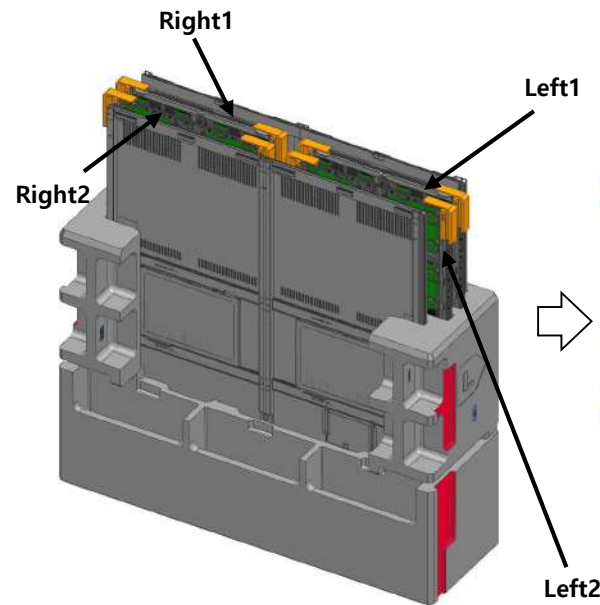
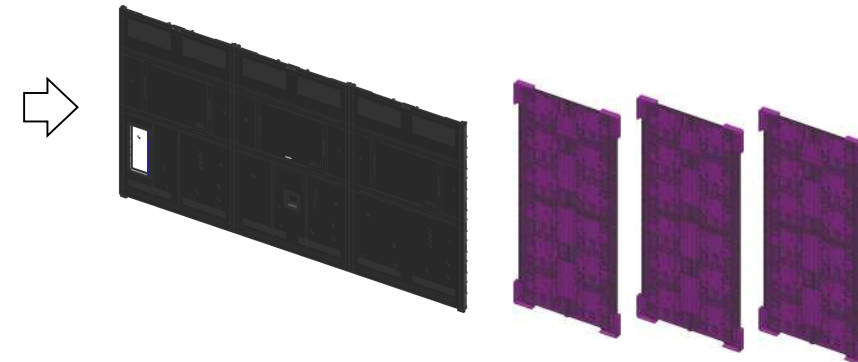

Fig. 2 Packing out
Fig.3 Check the set materials
- ① Remove the tape of the top BOX and open it. (Fig.2)
- ② Remove the top-cushion.
- ③ Check the set status. (Two rear parts and four front parts) (Fig.3)
Fig.3 check the SET
- ② Remove the top-cushion and PAD.
- ③ Check the configuration status of 3 sets. (REAR1, MODULE SET 3) (Fig. 3)